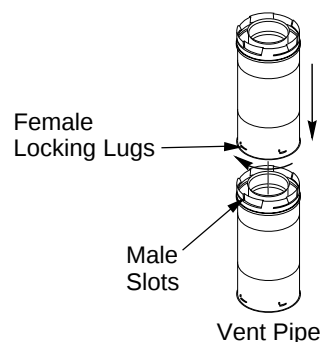

Figure 23 - Vent Pipe Connections
Twist-lock Procedure: The female ends of the pipes and fittings have four locking lugs (indentations). These lugs will slide straight into matching slots on the male ends of adjacent pipes and fittings. (All connections must be sealed with high temperature silicone sealant as specified in the second warning statement on page 12.) Push the pipe sections together and twist one section clockwise approximately one-quarter turn until the sections are fully locked. See Figure 23. **Note:** Horizontal runs of vent must be supported every three feet. Use wall straps for this purpose.
2. Assemble the desired lengths of pipe and elbows necessary to reach from the burner system flue up through the firestop. All connections must be sealed with high temperature silicone sealant as specified in the second warning statement on page 12. Be sure all pipe and elbow connections are fully twist-locked (see Figure 23, page 13).